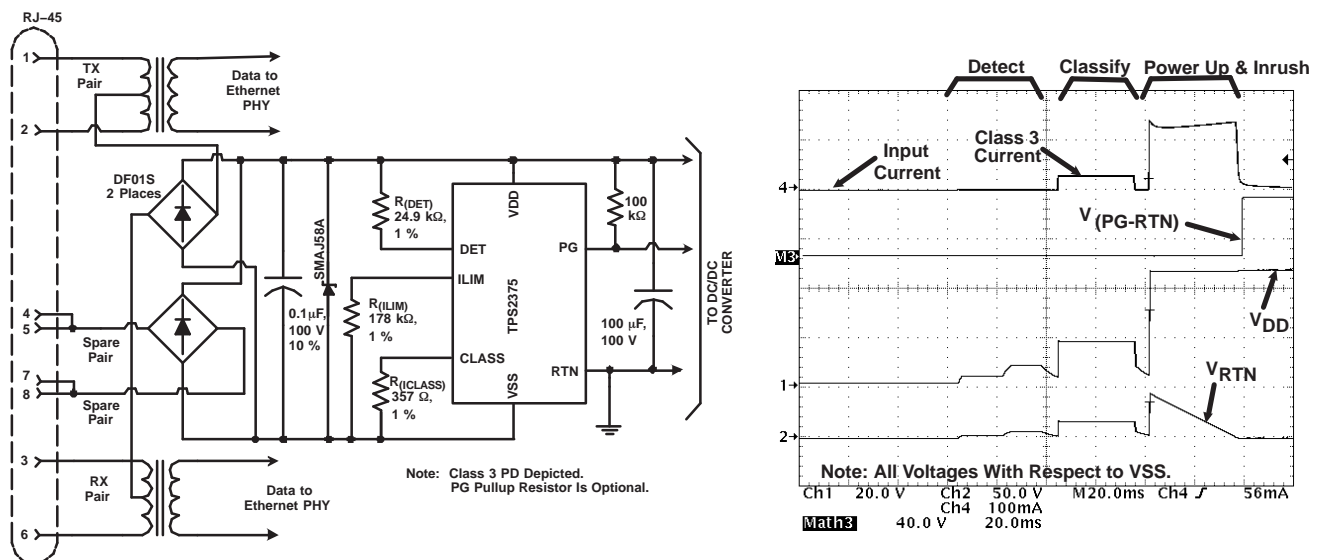

Figure 1. Typical Application Circuit and Startup Waveforms
(1) Stresses beyond those listed under “absolute maximum ratings” may cause permanent damage to the device. These are stress ratings only, and functional operation of the device at these or any other conditions beyond those indicated under “recommended operating conditions” is not implied. Exposure to absolute–maximum–rated conditions for extended periods may affect device reliability.
(2) I_(RTN) = 0
(3) SOA limited to V_(RTN) = 80 V and I_(RTN) = 515 mA.
(4) Surges applied to RJ-45 of Figure 1 between pins of RJ-45, and between pins and output voltage rails per EN61000-4-2, 1999.